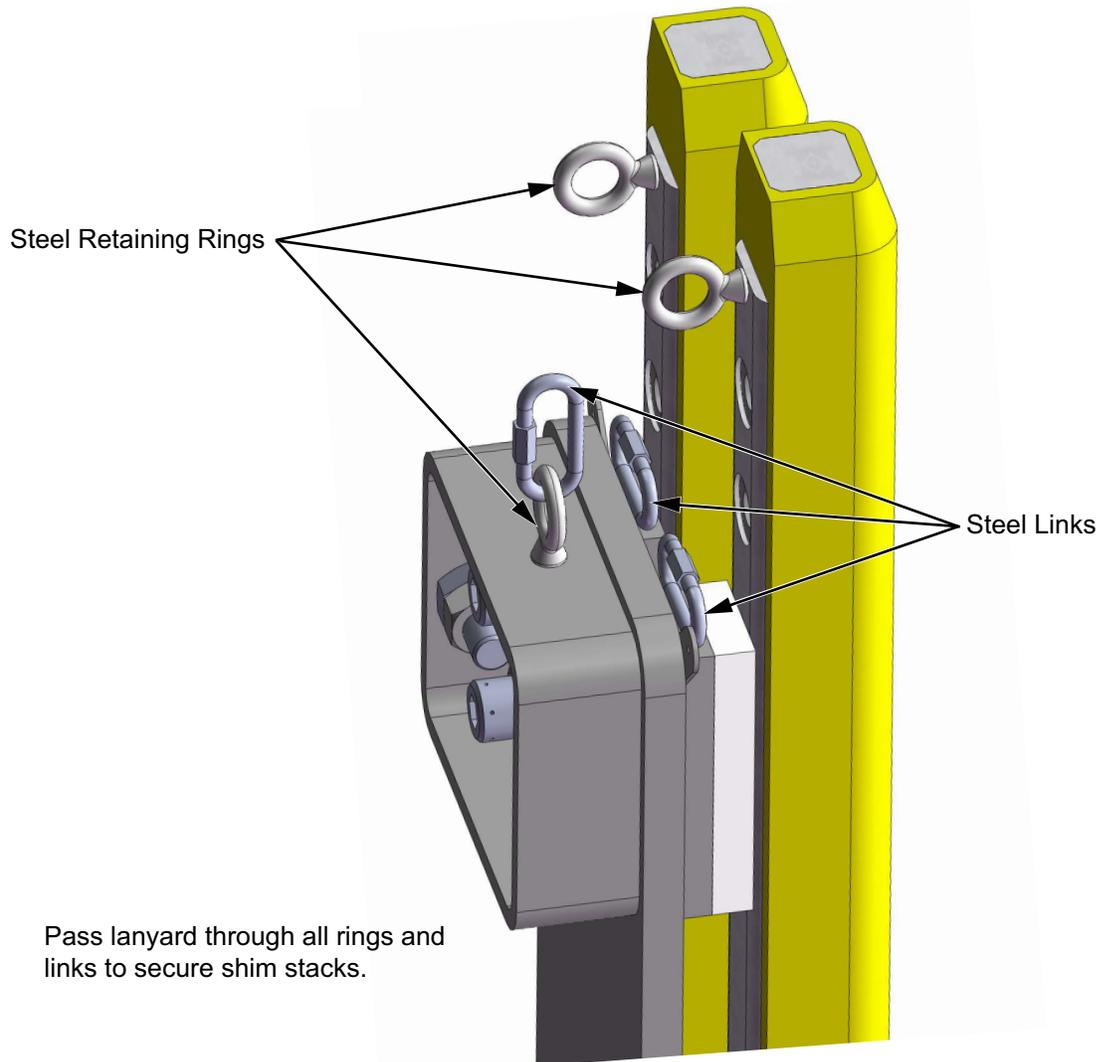

Figure 3: Retaining Ring and Link Placement
- **Method 1:** Weld the individual shims to one another at the locations shown in Figure 2 below. Weld a steel ring to this stack and pass a lanyard (such as a 1/16" safety wire) through this ring to secure the shim stack to the guide runner assembly. (See Figure 3 on page 4.)